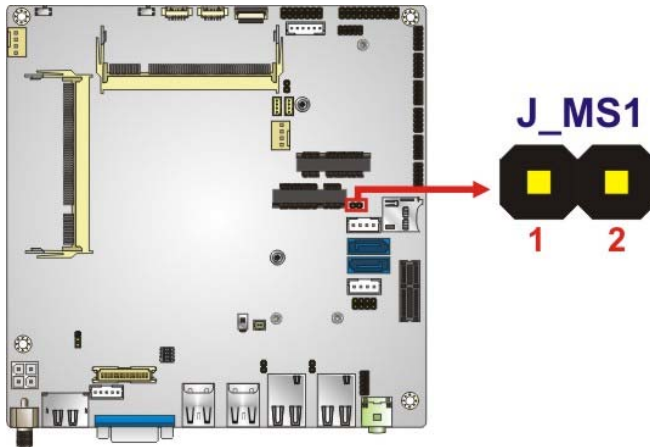

Figure 4-23: mSATA and SATA2 Select Jumper Location
- CN Location:** See Figure 4-23
The location of the mSATA and SATA2 select jumper is shown in **Figure 4-23** below.